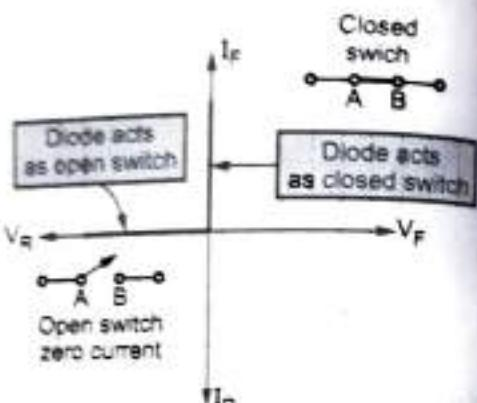

Fig. Q.23.2
- As ideal diode conducts instantly in forward biased condition and does not conduct at all in reverse biased condition. The ideal characteristics for a diode as a switch are as shown in the Fig. Q.23.2